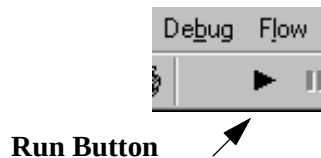

Figure 1-32. The Run button on the Tool Bar
3. Click the **Run** button. It looks like a small arrowhead, and is located on the tool bar below the `Debug` menu as shown in Figure 1-32.